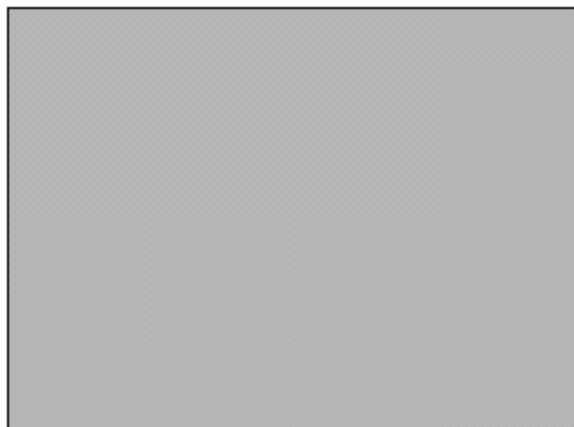
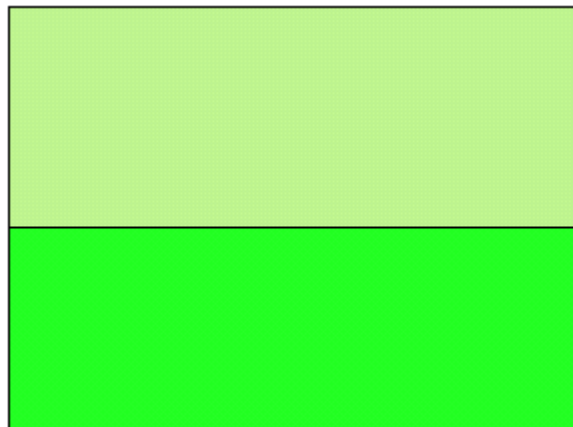

Figure 5-11. Functional Test Suite Expected Results
Figure 5-12. Functional Test Suite Expected Results
- **Color Bars:** Using a standard set of tabled images supporting the various screen sizes, a colored standard bar graph image will be transmitted to the HOTLink II board via the USB Link and then out to the monitor via the HOTLink II device. The expected result is shown in *Figure 5-11*.
- **Grey Test:** Using a standard set of tabled images supporting the various screen sizes, a grey standard image will be transmitted to the HOTLink II board via the USB link and then out to the monitor via the HOTLink II device. The expected result is shown in *Figure 5-11*.
- **RP178 & RP178 Alternate:** Using a standard set of tabled images, a sequence of images supporting the various screen sizes will be transmitted to the HOTLink II board via the USB link and then out to the monitor via the HOTLink II device. The expected results are shown in *Figure 5-12*.
- Once the configuration window closes, press “Go” to start the test and “Stop” to end. The expected results are as shown in *Figure 5-11* and *Figure 5-12*.